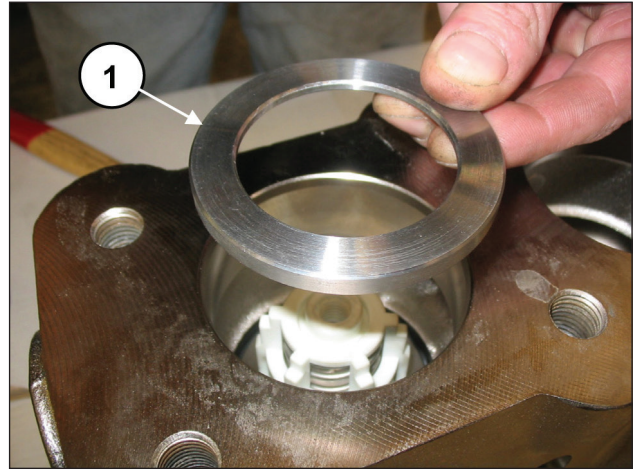
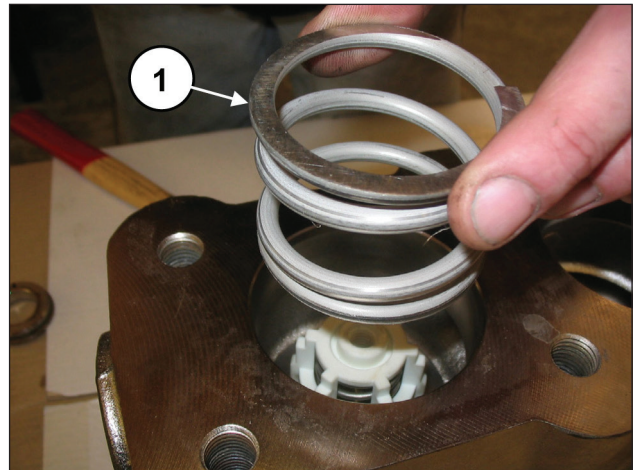

Fig. 112
Fig. 113
Insert the valve housing ring (pos. ①, Fig. 112), and its spring (pos. ①, Fig. 113).